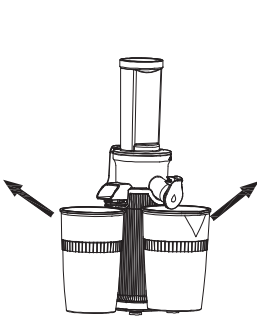

Fig 6
- 1.Remove the Juice and Pulp containers. (Fig 6)